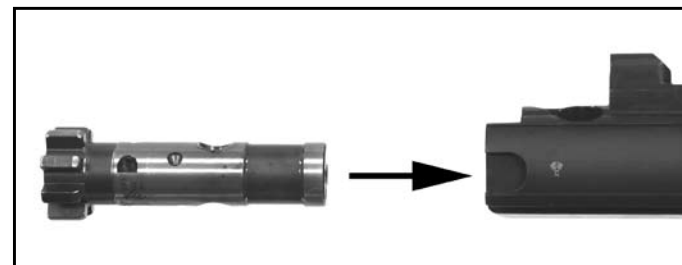

Fig. 58 – Bolt Carrier reassembly
a. Slide the bolt head into the bolt carrier until the circular mounting surface for the cam pin on the bolt heads aligns with the front of the raceway on the bolt head carrier. Pointed down range, the extractor should be on the right hand side of the bolt carrier and ejector should be on the left (Fig. 58).